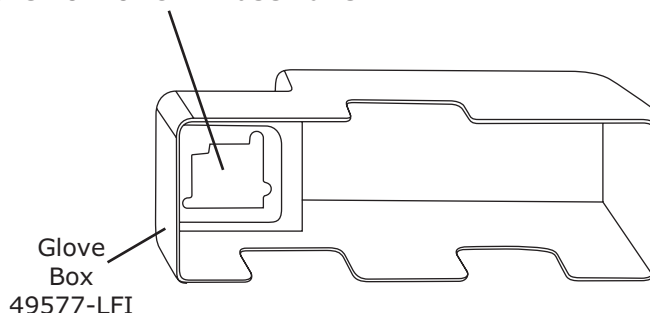

Figure 14
5. Trim the driver side of the new glove box insert for the OEM fuse panel (See Figure 14, below). **NOTE: Applies to 1972-77 Bronco only.**